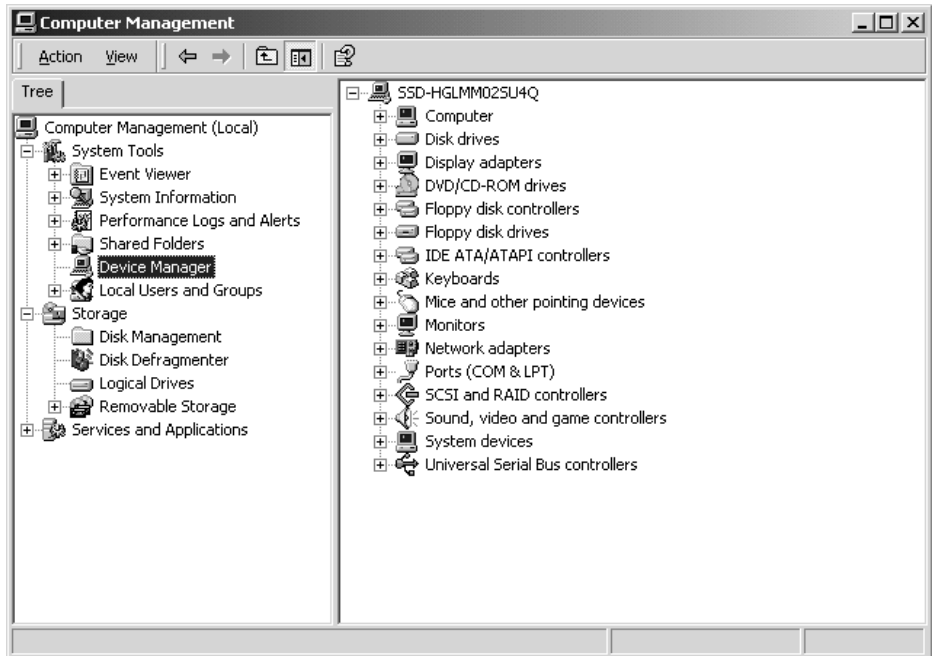

Figure 24. Device Manager Menu
6. A **Computer Management** window opens. Double-click **Device Manager** under the **System Tools** tree. See Figure 24.